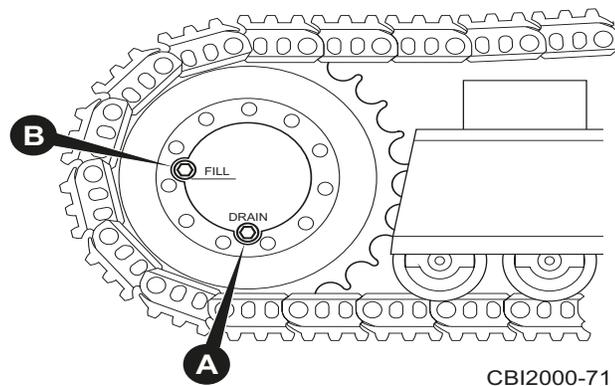

Figure 6.35 - Track Drain and Fill Plugs
1. Position Machine - Position the machine so that the track gearbox is rotated with its drain plug (Figure 6.35 / A) in the lowermost position. The machine should be on level ground.
3. Drain Old Oil - Remove the fill cap (Figure 6.35 / B) and the drain plug (Figure 6.35 / A) from the gearbox. Allow the used oil to fully drain into a suitable container.
5. Add New Oil - Refill the gearbox with new oil through the fill hole (Figure 6.35 / B); it's full when the oil is level with the bottom of the fill hole.
(9) Oil Analysis